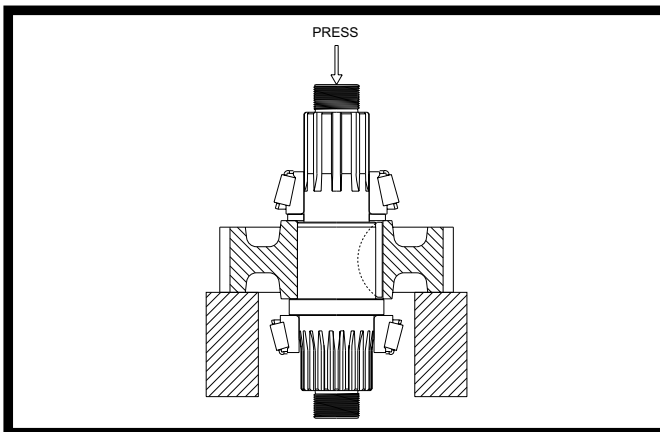

Fig 21
4. Place the shaft assembly in a press so that the gear is supported and the press arbor bears against the yoke-end of the shaft. See Figure 21. Remove the bearing cone assembly, the spacer washer, and the gear. Remove the shaft key only if necessary.